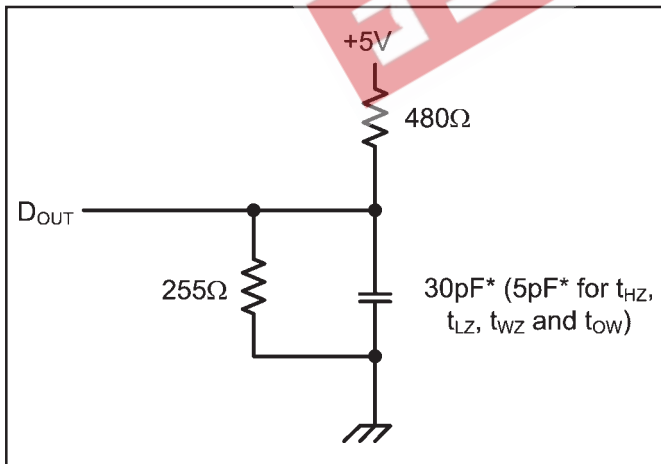

Figure 1. Output Load
7. Transition is measured  $\pm 200\text{mV}$  from steady state voltage prior to change with specified loading in Figure 1. This parameter is sampled and not 100% tested.
- 13. Transition is measured  $\pm 200mV$  from steady state voltage prior to change with specified loading in Figure 1. This parameter is sampled and not 100% tested.
Output Load	See Figures 1 and 2